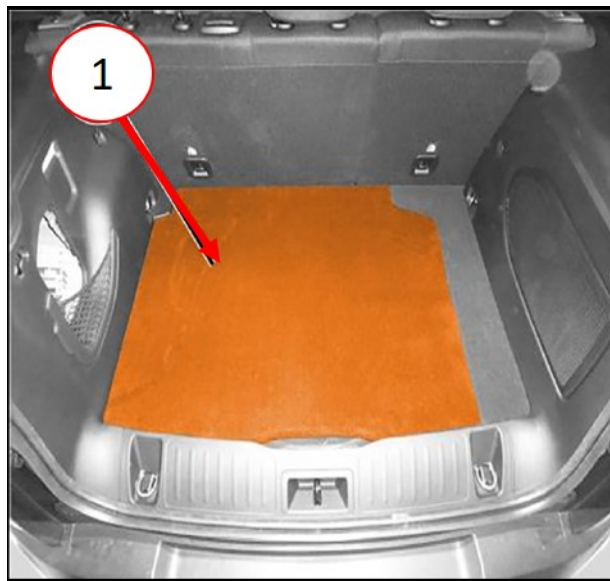

Fig. 2
- Remove the load floor (Fig. 2) .